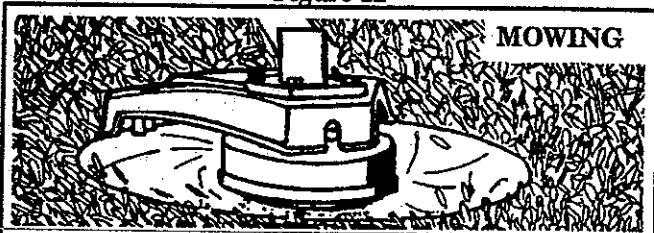

Figure 13
3. **MOWING** – Figure 13 . Your trimmer is ideal for mowing in places conventional lawn mowers cannot reach. In the mowing position, keep the line parallel to the ground. Avoid pressing the head into the ground as this can scalp the ground and damage the tool.